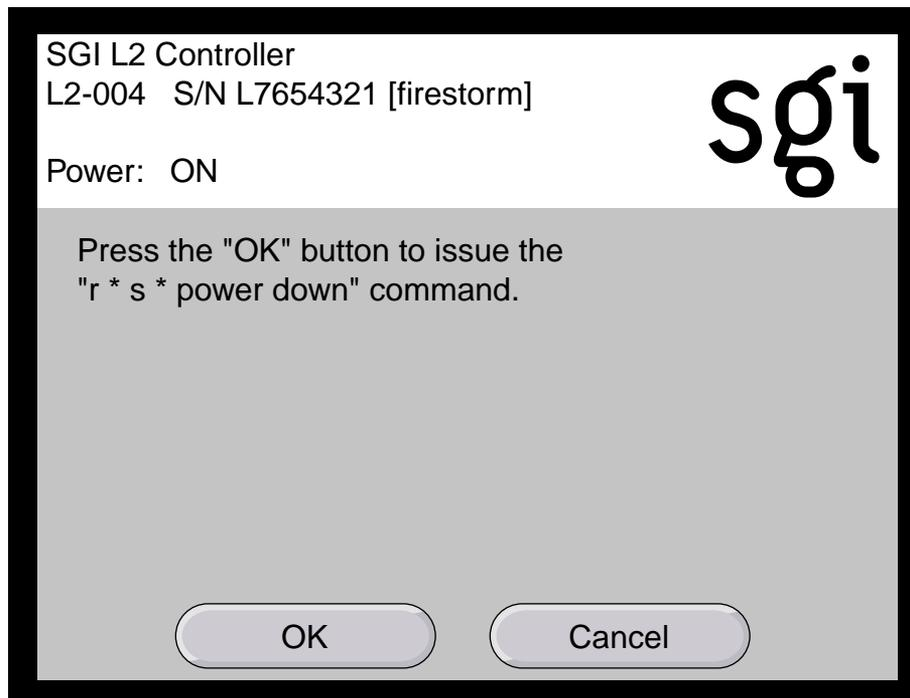

Figure 4-23 Power DOWN Confirmation Window
8. After you have selected the destination of the bricks you want to power off, select **Power DOWN** from the home window. The Power DOWN confirmation window, shown in Figure 4-23, appears. This window indicates which bricks will receive the **Power DOWN** command. In this example, it will power off all slots (bricks) in all racks ($r * s^*$). If you select **OK**, the power-off operation is confirmed and the home window appears. Selecting **Cancel** stops the power-off operation and the home window appears.